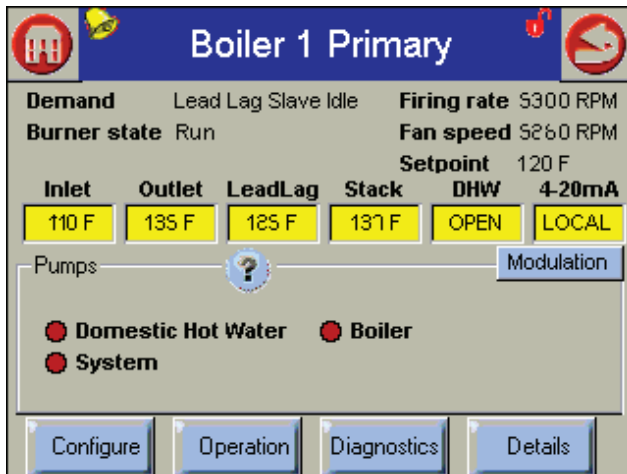

Fig. 37 - Status Summary Page
2. The Status Summary page for that controller will appear. See Fig. 37.